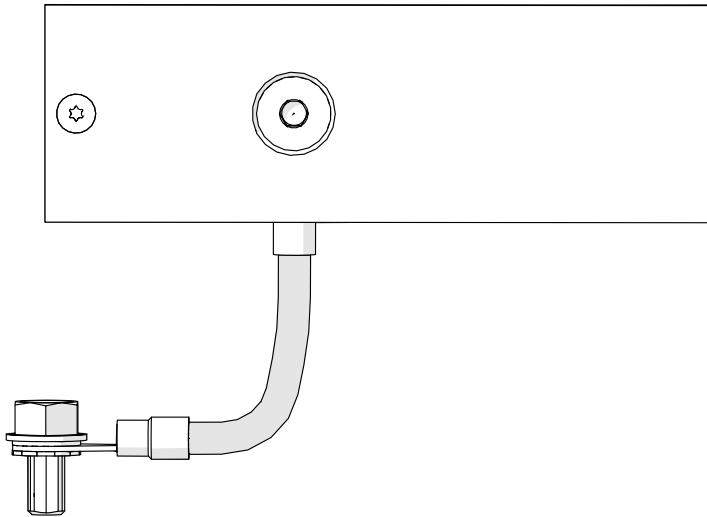

Fig. 4: Adhesive surface of the positioning band profile (countersunk surface)
- The countersunk side of the positioning band profile is the adhesive surface for the positioning band (see Fig. 4).